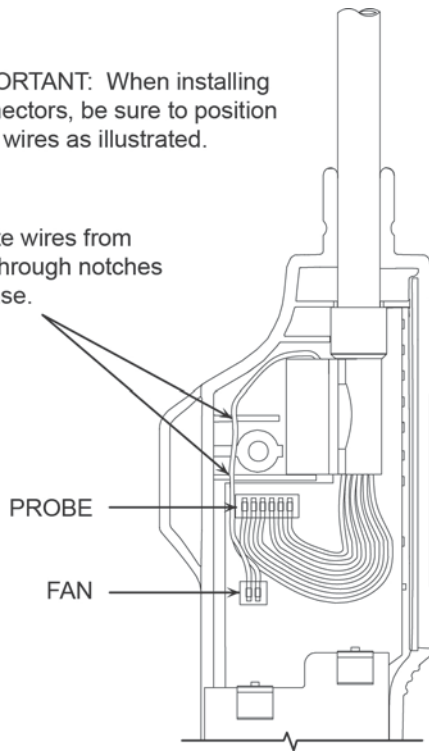

Figure 8. Connector Locations on Printed Circuit Board
7. Plug both the probe and fan connectors onto their respective header holes on the printed circuit board as shown in Figure 8.
8. Position the probe assembly between the two case halves, routing the fan wires through the notches in the case as shown in Figure 8. Then reassemble the case; push on the front retaining collar; screw on the probe tip; and reinstall the batteries.
Instrument does not turn on.	<ul style="list-style-type: none"> a. Batteries are dead or installed backward. Install four fresh ‘AA’ alkaline batteries per Section Battery Installation. b. Possible faulty refrigerant sensor. <ul style="list-style-type: none"> -Remove refrigerant sensor and turn on detector. If detector now turns on, and after warm-up shows a bad sensor (see sensor failure indication below), replace sensor per Section Sensor Replacement. c. Loose printed circuit board connector. Disassemble detector and ensure that all connectors are securely attached to the printed circuit board. See Figure 8.
<p>Erratic gas indication.</p>	<ul style="list-style-type: none"> a. Sensor faulty. Replace sensor per Section Sensor Replacement. b. Loose sensor. Unscrew probe tip and ensure that sensor is being held firmly in socket. c. Loose printed circuit board connector. Disassemble detector and ensure that all connectors are securely attached to the printed circuit board. See Figure 8.